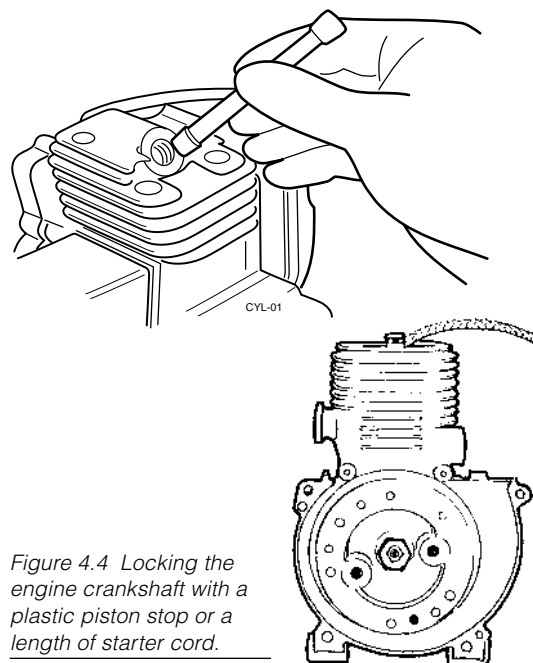

Figure 4.4 Locking the engine crankshaft with a plastic piston stop or a length of starter cord.
STEP 1. Lock the engine crankshaft by inserting a plastic piston stop or length of starter cord through the spark plug hole (Figure 4.4).